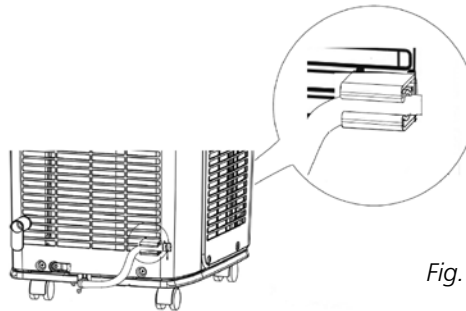

Fig. 22
- 4** If the hose is not being used to drain the condensation, place the hose in the hose holder to prevent leaks (see fig. 22).